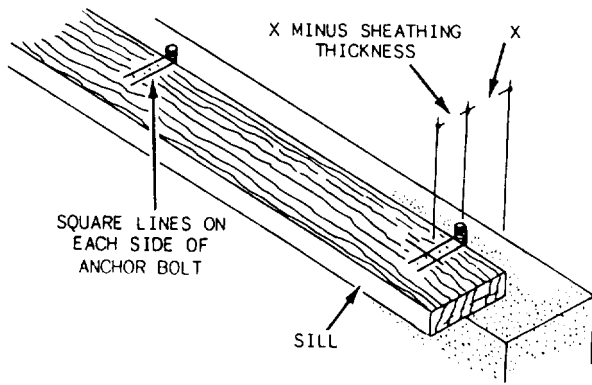

Figure 1-2.—Anchor bolt layout.
5. Extend these marks with a square across the width of the sill. The distance **X** in figure 1-2 shows how far from the edge of the sill to bore